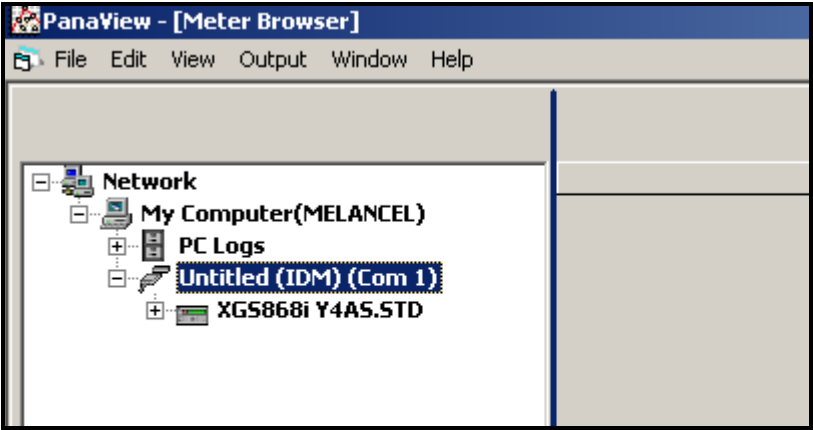
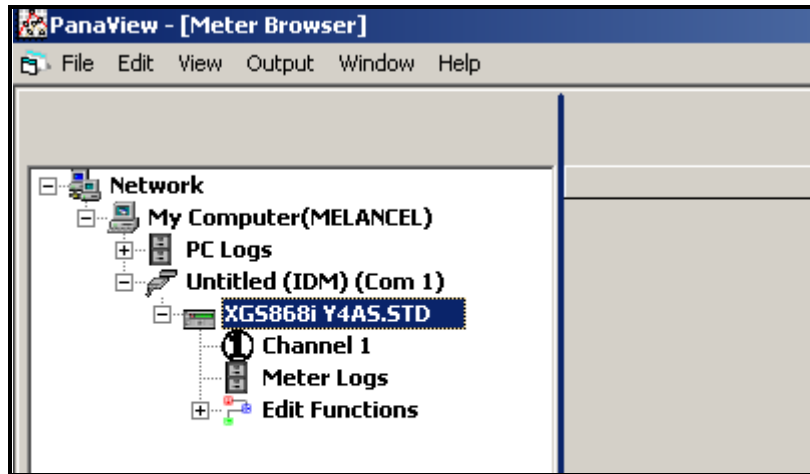

Figure 37: The Updated Network Tree
Figure 39: Meter Tree with *Edit Functions* Option
If the initialization is successful, the *Meter Browser* shows a listing similar to Figure 37.
1. From the meter tree in the *New Meter Browser* (shown in Figure 37 on page 89), click on the XGS entry. The screen now appears similar to Figure 39.